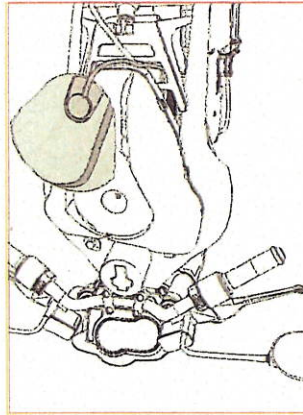

Figure 5
3. Lift exhaust power valve from airbox lid and set aside. No need to disconnect it. (Figure 5)